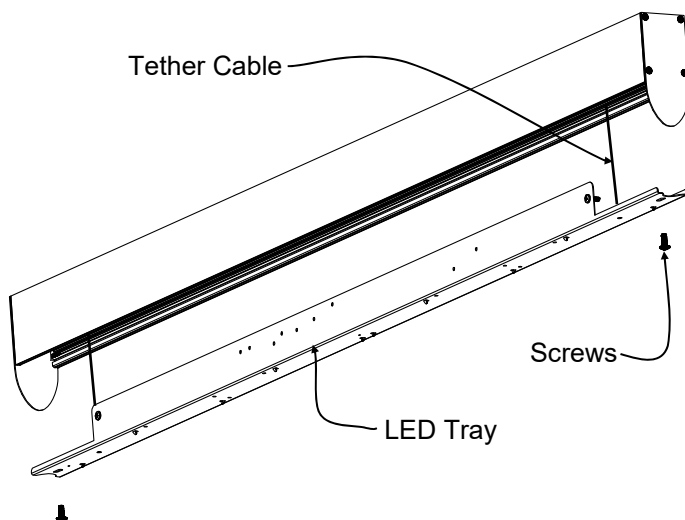

Fig. 2
4. Remove the 2 screws holding the LED tray (Fig. 2). The tray will hang from tether cables attached to studs in the housing.